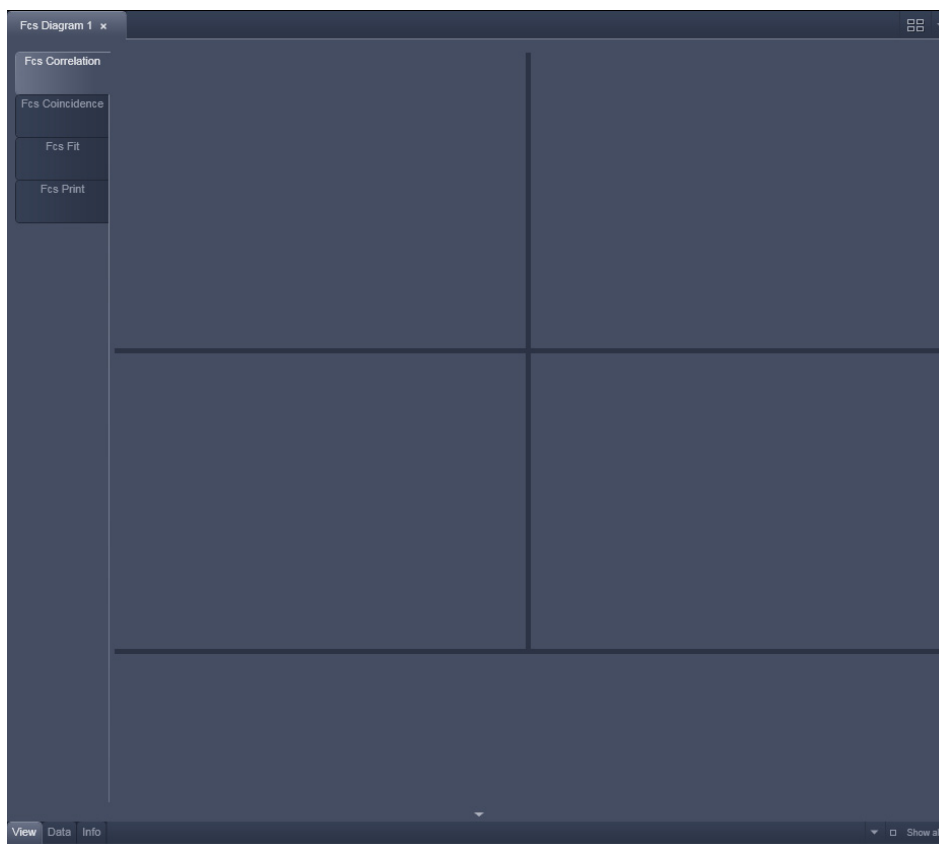

Fig. 9-79 Image Container with new FCS Diagram opened
- Click on the New Document button to open a new **FCS Diagram** in an **Image Container**. New diagrams per session will be numbered starting with 0 (Fig. 9-79).
- Click the **Close** button (cross symbol) in the tab to close the **FCS Diagram**. The **Close Image** window will appear and prompt you to acknowledge closing the diagram if anything on the data was altered. Press **Yes** to save any changes, **No** to discard the alterations and **Cancel** to return to the diagram see Fig. 9-79.